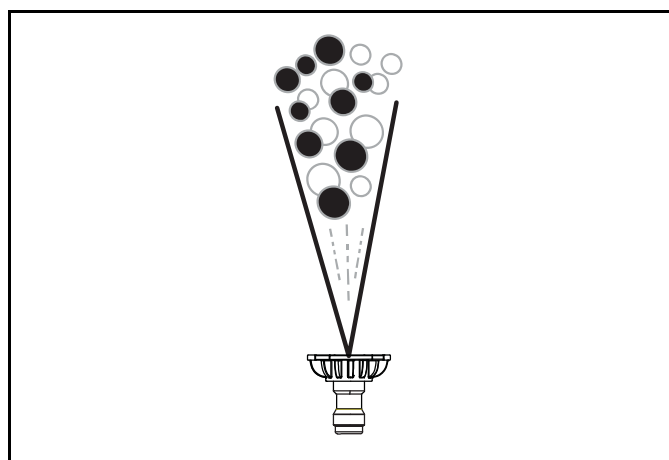

Figure 4-21. Detergent Nozzle (Black)
- When applying detergent, use only the black nozzle (Figure 4-21). Only use power washer safe detergents/soaps to help break down stubborn dirt and grime on a variety of surfaces.